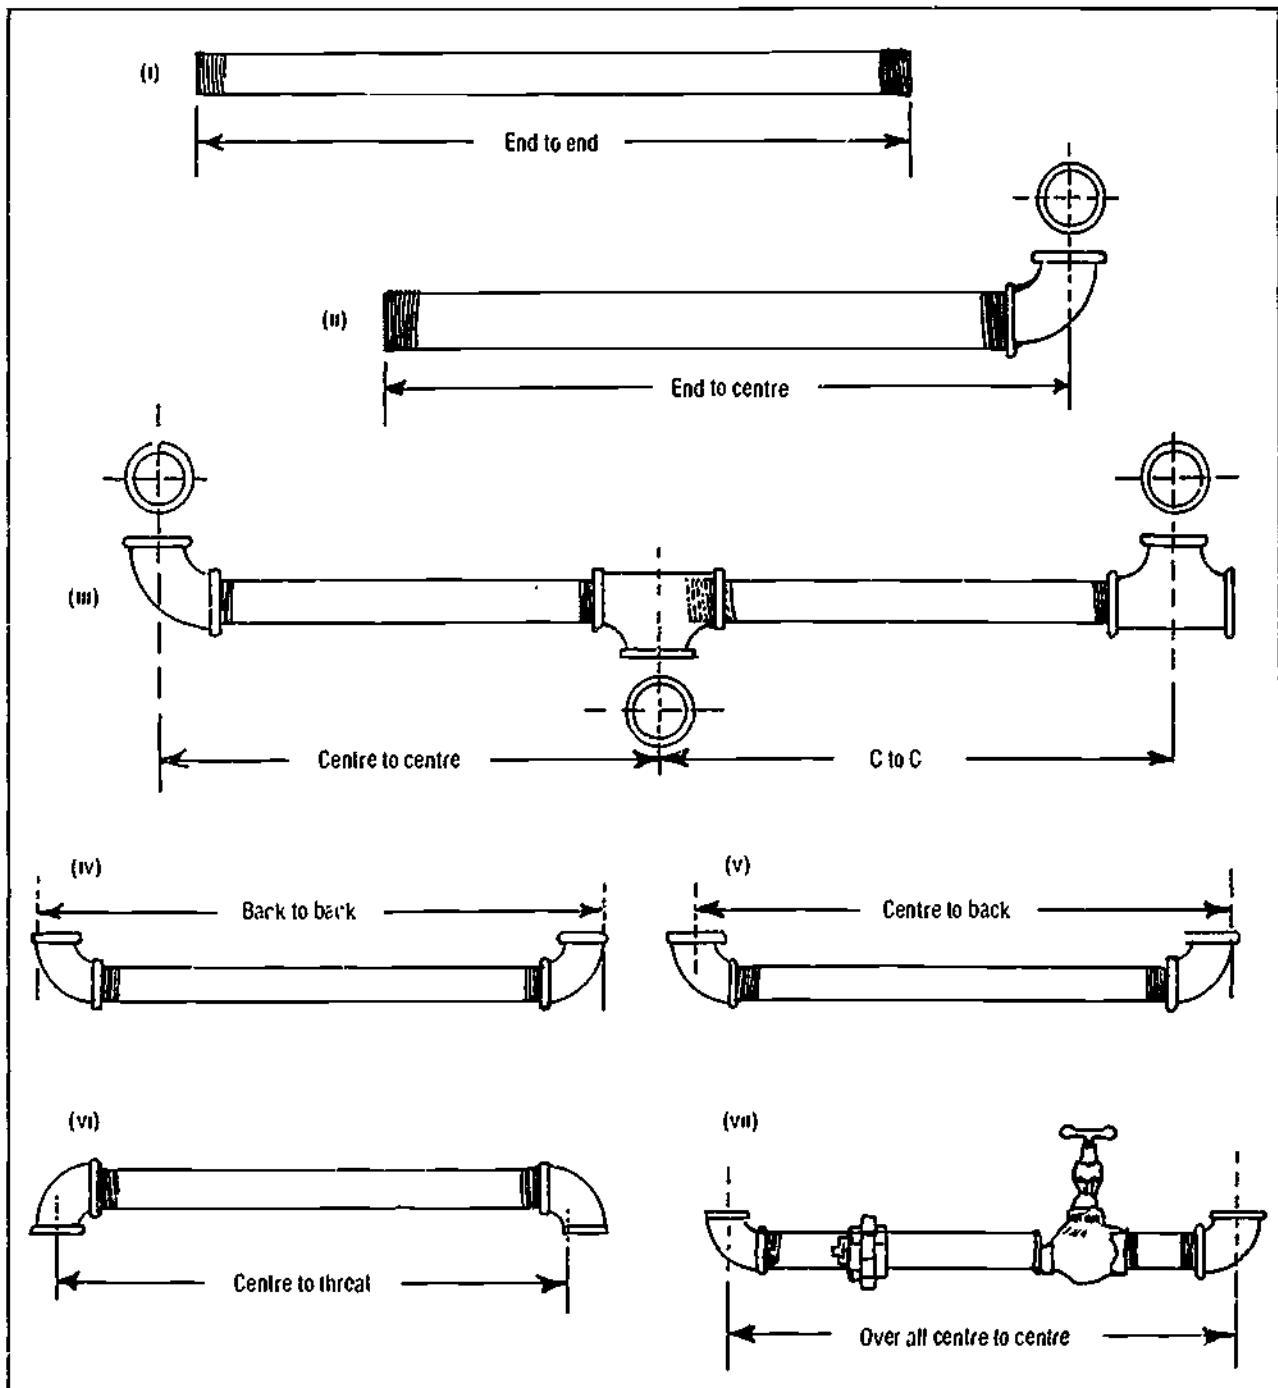

Figure 7-23. Methods of Taking Measurements for Piping Installation
b) Following are some of the different methods of taking measurements for a piping installation (see also Figure 7-23):
f) The remaining measurement sketches in Figure 7-23 should be fully understood before proceeding.